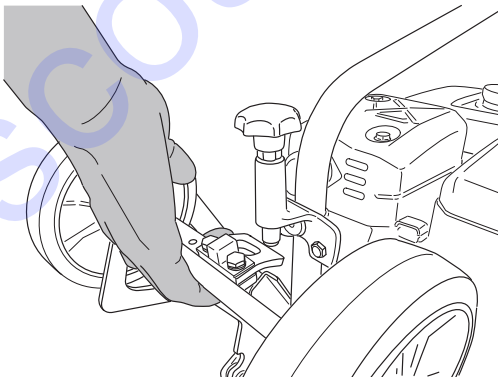

Figure 15. Storing Position
3. Pull the wheel kit to the storing position (Figure 15).